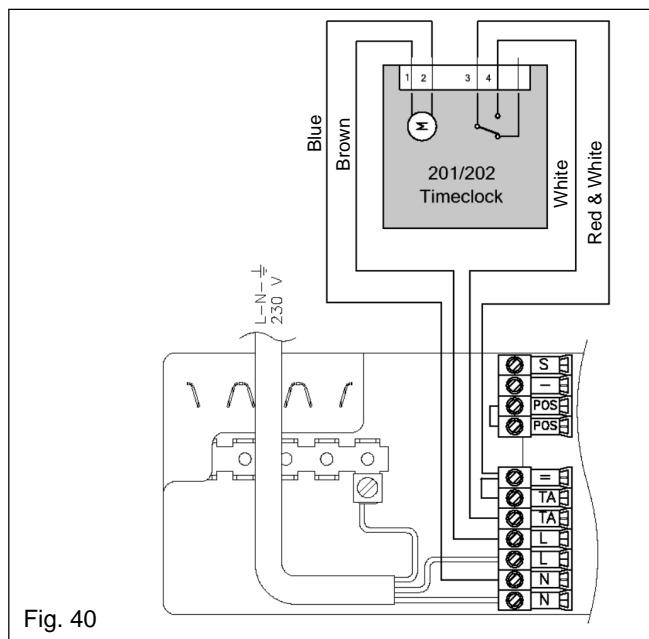

Fig. 40
**8.4 VOKERA TIME CLOCK (see fig. 40)**
- Take the wires supplied with the time clock and connect them as shown in fig. 40